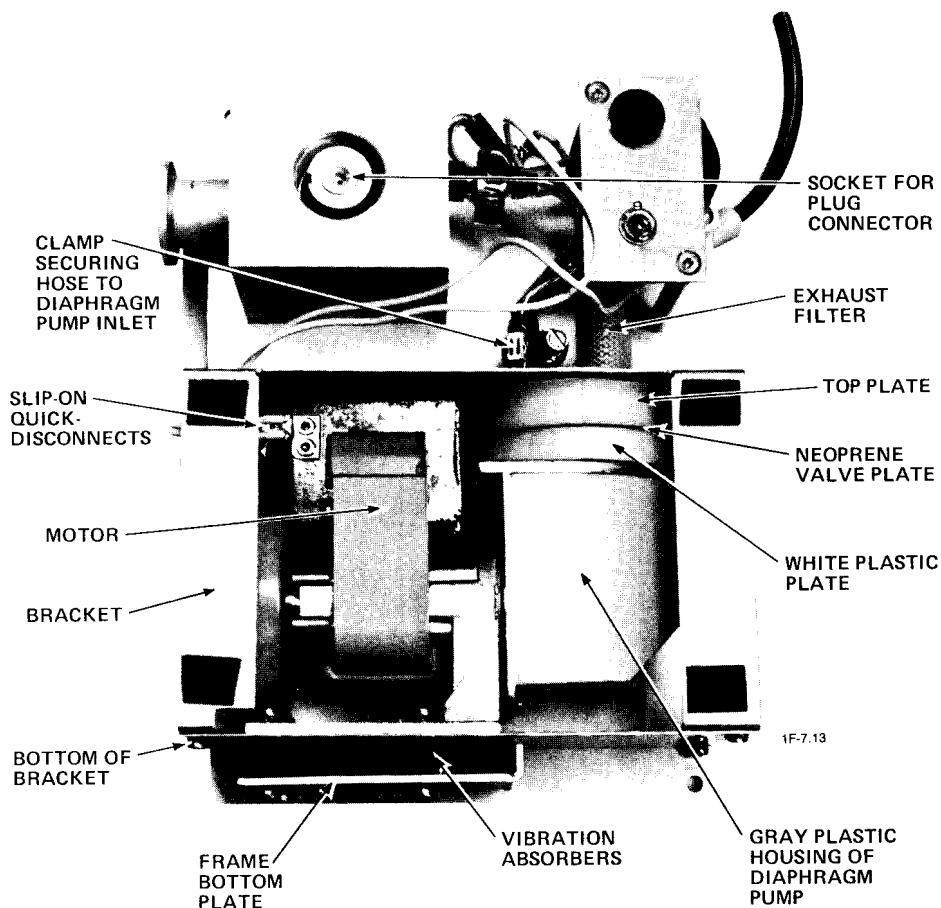

Figure A-8 - Diaphragm Pump Installed in Gas Transfer Unit of QUICK-TEST
2. Remove the slotted screws from each of the four corners on the back of the QUICK-TEST housing and pull the black cover off of the housing (see Figure A-8).
3. Pull the two slip-on quick-disconnects off of the diaphragm pump motor (see Figure A-8).
4. Loosen the hose clamp and pull the hose off of the inlet of the diaphragm pump (see Figure A-8).
5. Remove the four large phillips screws attaching the bottom plate of the frame to the vibration absorbers (see Figure A-8).
6. Pull the bracket containing the diaphragm pump out of the QUICK-TEST housing (see Figure A-8).
7. Remove the four small phillips screws which hold the bottom of the bracket to the legs of the bracket (see Figure A-8).
9. Reassemble the QUICK-TEST using a new diaphragm pump (see Figure A-8).
2. Disassemble the diaphragm pump as follows (see Figure A-8).
- a. Reinstall the gray plastic housing ensuring that it snaps into its groove (see Figure A-8).